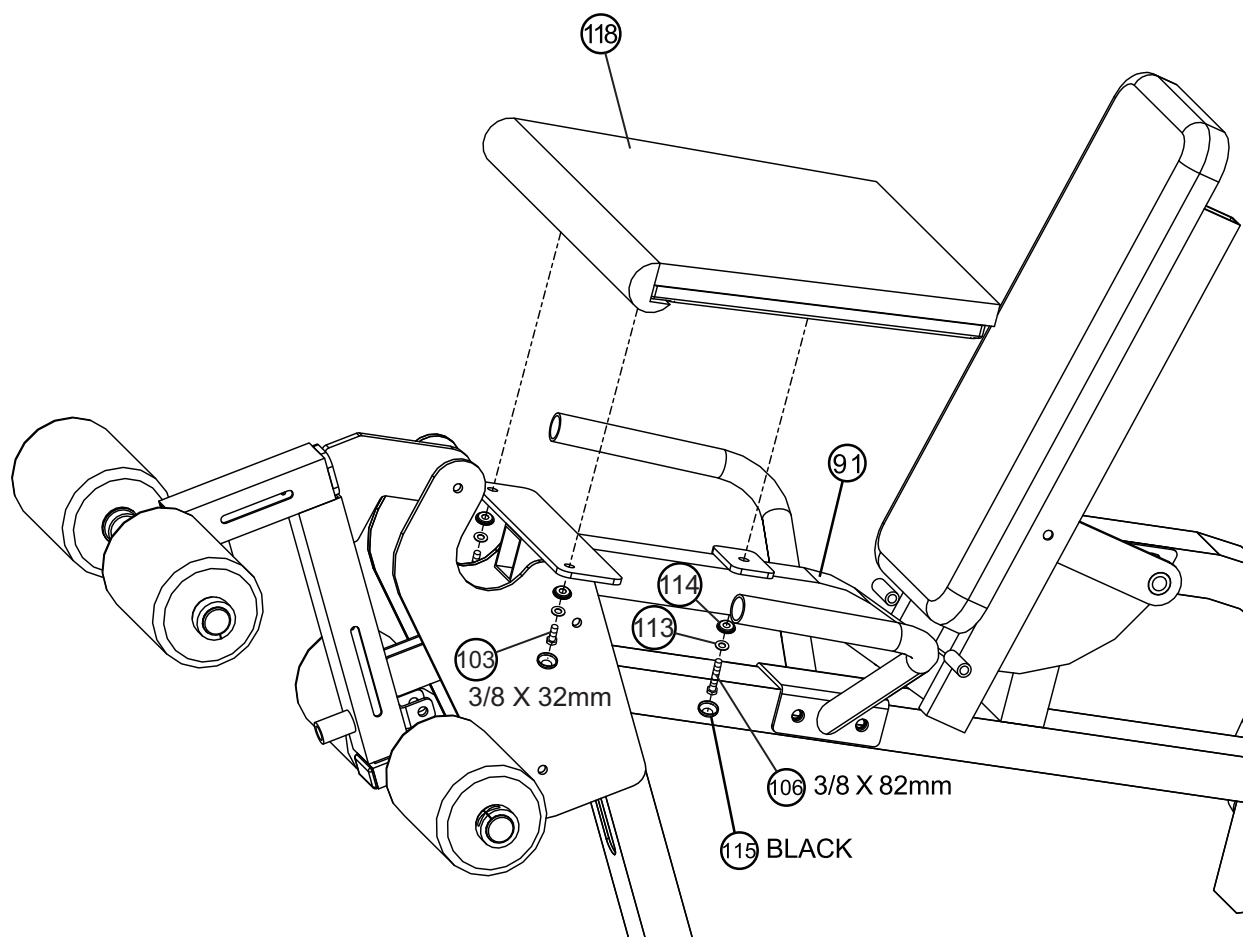

FIGURE 40
- **SECURELY** assemble the LEG CURL/EXT SEAT PAD (118) to the LEG CURL/EXT SEAT (91) using three BLACK RH CAPS (115), two 3/8 X 32mm BOLTS (103), one 3/8 X 82mm BOLT (106), three 3/8" SAE WASHERS (113) and three 3/8" RH WASHERS (114) as shown in FIGURE 40.